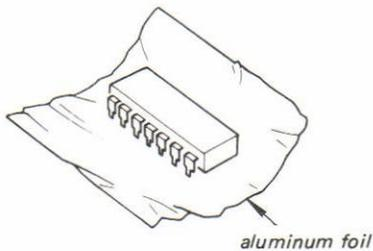

Fig. 1.
1. Maintain all the pins at the same potential by wrapping the IC in aluminum foil or other similar material (See Fig. 1).